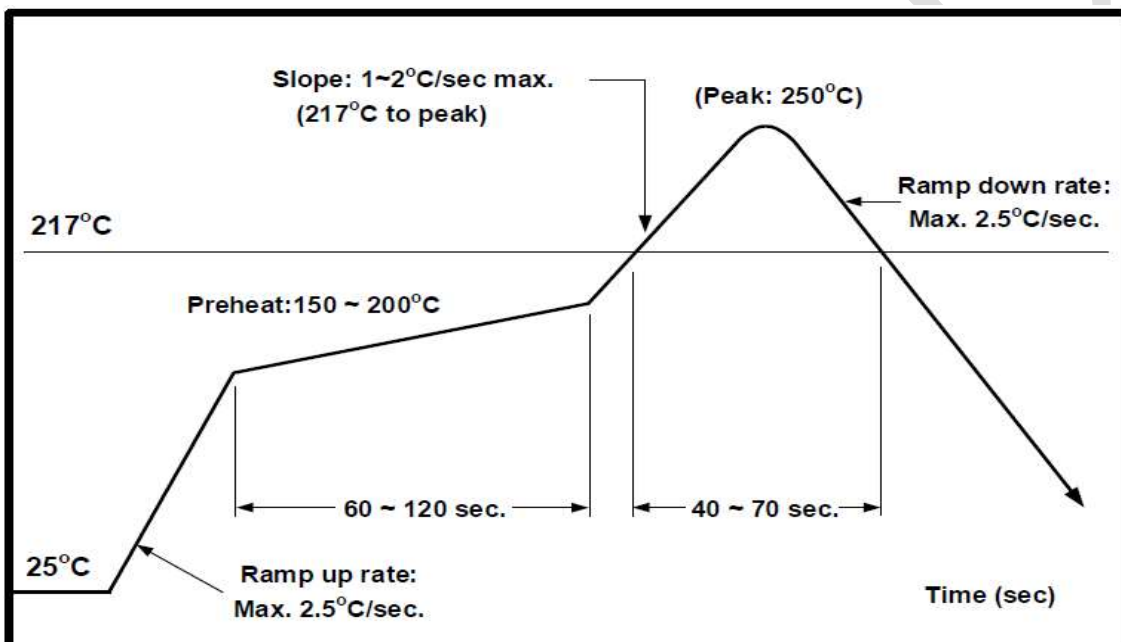

Figure 21 : Solder reflow profile
- Allowable reflow soldering times: Three times based on the reflow soldering profile as shown in *Figure 21*.
- Temperature profile: Reflow soldering shall be done according to the temperature profile as shown in *Figure 21*.